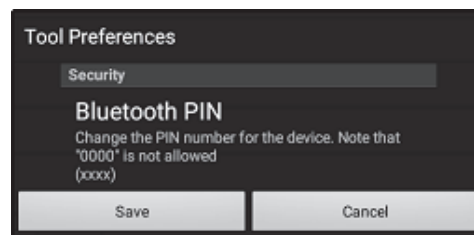

Figure 4-8: Security Preferences
**Tool Security Preferences** (Figure 4-8) allows you to change the Bluetooth PIN on the Tool. Select the "Bluetooth PIN" box to change the PIN. Enter the desired 4-digit number for the new PIN. The tool may need to be reset after changing the PIN. See the appropriate user manual.